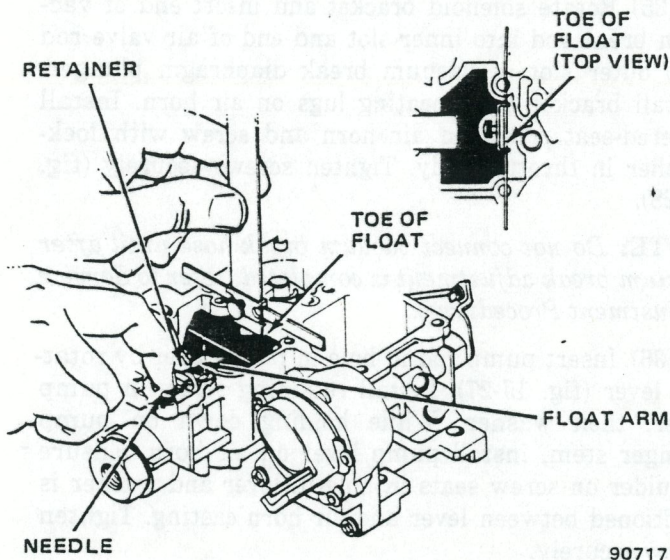

Fig. 1J-51 Model 2SE Carburetor—Float Adjustment
(1) Hold retainer pin firmly in place and push float down lightly against needle (fig. 1J-51).
(2) Using adjustable "T" scale, at a point 3/16 inch (4.8 mm) from end of float at toe, measure distance from float bowl top surface (gasket removed) to top of float at toe (fig. 1J-51).
(3) Remove float and bend float arm as necessary to adjust. Refer to Specifications.
(4) Visually check float alignment after adjustment.